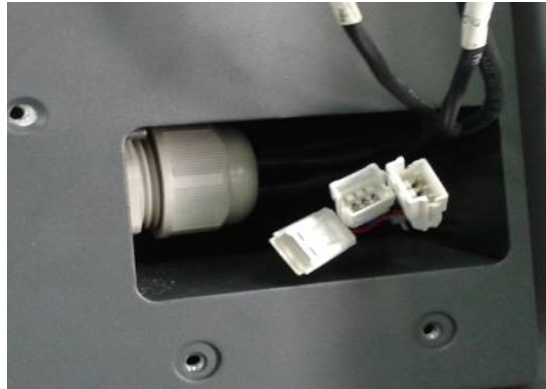

Figure 6-2 Unplugging the wire connectors
- (2) Disconnect the fan tray assembly from the inverter by unplugging the wire connectors as shown in Figure 6-2;